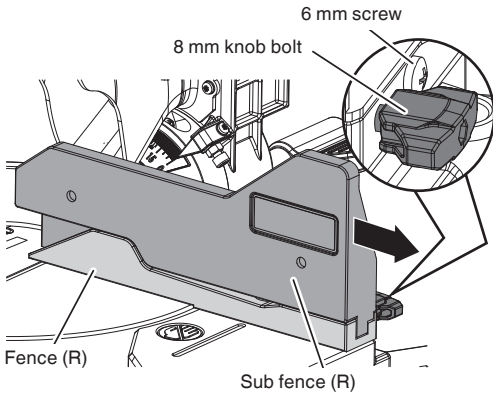

Fig. 12-a
5. Confirmation for use of sub fence (R) (Fig. 12-a)